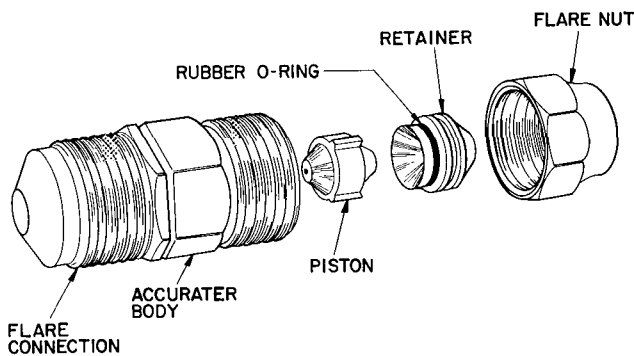

Fig. 2 — AccuRater™ (Bypass Type) Components
Step 2 — Replace Indoor AccuRater™ Piston if Required — Check indoor coil piston to see if it matches the required piston listed in Table 2. If it does not match, replace indoor coil piston with piston shipped with this outdoor unit (located in plastic bag taped to valves). See Fig. 2.